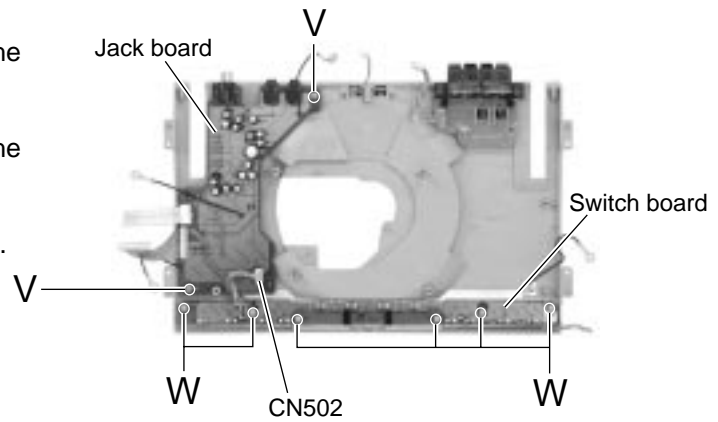

Fig.35
■Removing the jack board (See Fig.35)
■Removing the switch board (See Fig.35)